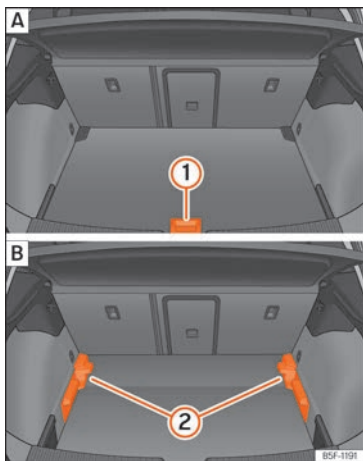

Fig. 132 Variable luggage compartment floor: **A**) raised position; **B**) lowered position.
- To move from the low position to the high position, lift the floor using the handle »» Fig. 132 (1), and pull it back until the front of the floor has fully passed the supports »» Fig. 132 (2).
- Move the floor forward over the supports as far as the rear seat backrest and then lower the floor with the handle (1).
- To move from the high position to the low position, lift the floor using the handle »» Fig. 132 (1), and pull it back until the front of the floor has fully passed the supports »» Fig. 132 (2).
- Now let the front part fall to the floor and slide the floor forwards as far as the rear seat backrest; lower the floor at the same time with the handle (1).
- Lift the variable floor in the high position using handle »» Fig. 132 (1), pull it up and push it towards the backrest of the rear seats until it folds along the hinge line and the movable part of the floor is resting on itself.